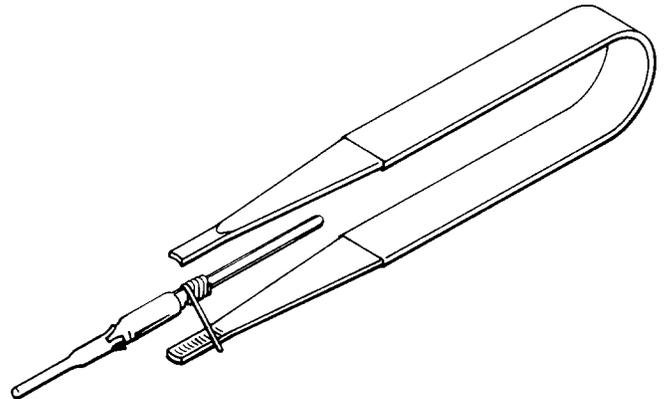

Fig. 5—Terminal Pin and Wire With Insertion Tool
| 5 | Replace each socket in its proper position in the quad plug (Step 3 or Fig. 13) by selecting the correct hole for a specific socket. Grasp the quad plug with the wire face (Fig. 10) accessible. With the insertion tool, grasp the socket at the crimp (so that the wire and crimp rest in the groove in the tool and are aligned with it; similar to Fig. 5 with socket replacing pin). Insert the socket into the proper hole and push it into that hole from the wire face side until it locks into position. |
| 7    | Place each socket in its proper position in the quad plug (Fig. 13) by selecting the correct hole for a specific socket. Grasp the quad plug with the wire face (Fig. 10) accessible. With the insertion tool, grasp the socket at the crimp (so that the wire and crimp rest in the groove in the tool and are aligned with it; similar to Fig. 5 with socket replacing pin). Insert the socket into the proper hole and push it into that hole at the wire face until it locks into position.   |
- 6 Place each socket in its proper position in the quad plug (Fig. 13) by selecting the correct hole for a specific socket. Grasp the quad plug with the wire face (Fig. 10) accessible. With the insertion tool, grasp the socket at the crimp (so that the wire and crimp rest in the groove in the tool and are aligned with it; similar to Fig. 5 with socket replacing pin). Insert the socket into the proper hole and push it into that hole at the wire face until it locks into position.